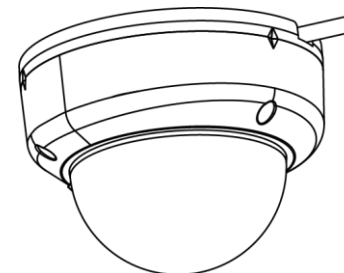

Figure 4
- Through the cable side entry slot (Figure 4).